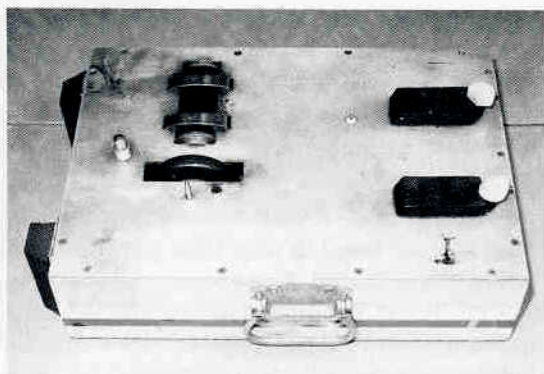

Fig. 298C
Step 13 Figs. 298A-298D show what each of the needed items or accessories normally look like. They are labeled to help you identify what each item is. Their use is described in the following instructions if you are unfamiliar with them. Fig. 298A shows a long reach glow plug igniter, Ni-cad style. Fig. 298B show a hand starter motor with car type rubber donut (Associated #SP-26) and a 12 volt battery used to run it. Fig. 298C (next page) shows an